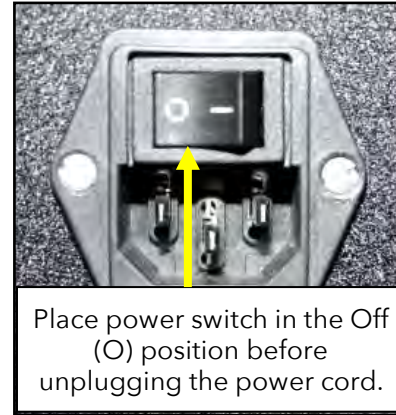

Figure 2. ADH NETCOM POWER SWITCH.
1. Shut off machine power by placing power switch in the OFF (O) position. Refer to Figure 2. With the power switch in the off position, unplug the power cord. If possible, move the dehydrator to a work table.